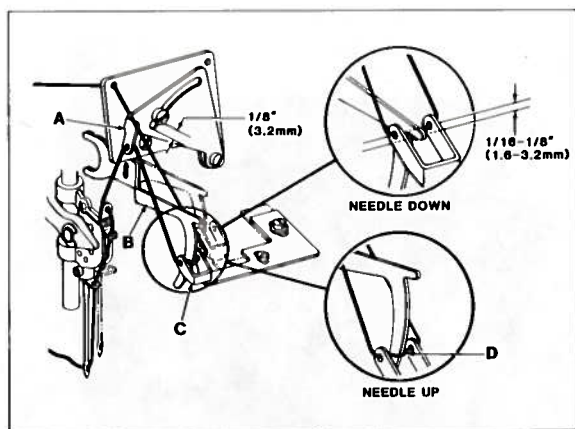

Fig. 27
Set adjustable thread guide (A, Fig. 27) near its highest position until approximately 1/8 inch (3.2mm) adjustment remains in slot as shown in Fig. 27. As the eyelet is lowered more needle thread remains in the stitch. Having additional needle thread in the stitch may be desirable when sewing thick material.
With needles at lowest position loosen clamp screw and position strike off tip of thread pull-off (B) 1/16 inch (1.6mm) to 1/8 inch (3.2mm) below eyelet (C) as shown in Fig. 27.